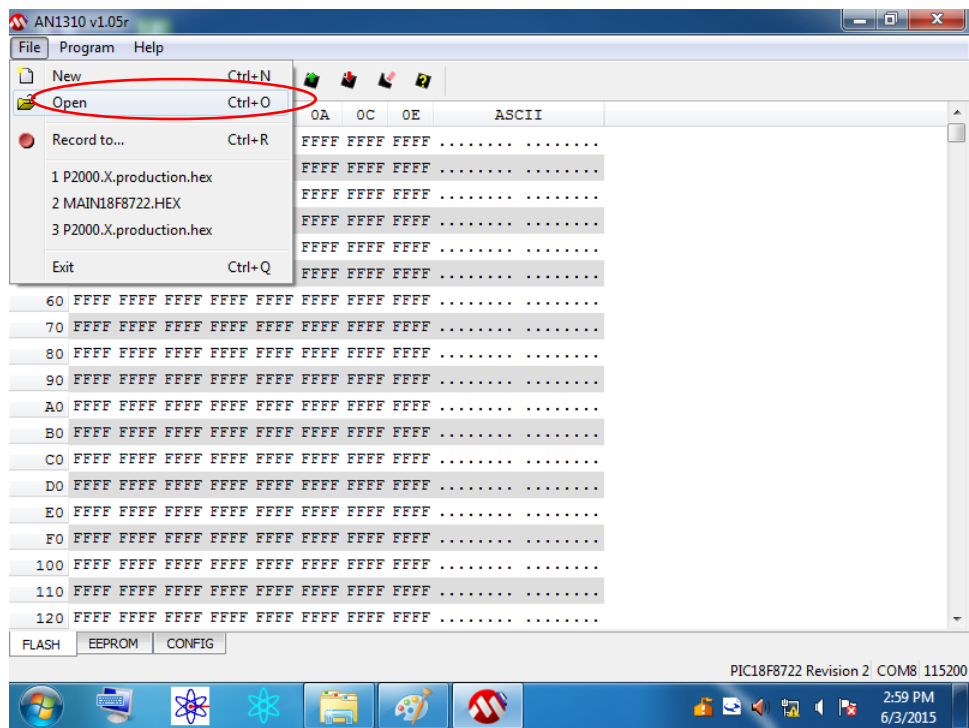

Figure 3.19
6. From the main menu select **File>Open** (Figure 3.19)